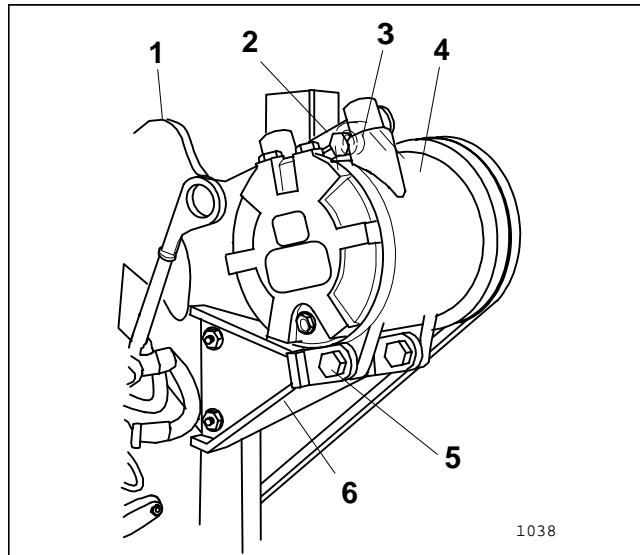

FIG. 3
- 5.** Mount Compressor Mounting Bracket to rear of Governor Bracket using (2) 3/8" x 1" capscrews and flange locknuts. Note: Use pre-drilled holes in Governor Bracket. See FIG. 3.
- 6.** Install Compressor Adjusting Strap to rear of Governor Bracket using (1) 3/8" x 1" capscrew and 3/8" flange locknut. See FIG. 3
- 7.** Loosely mount Compressor to Compressor Mounting Bracket using (2) M10 x 35 capscrews. See FIG. 3.
- 8.** Place Compressor Spacer between Compressor Adjusting Strap and Compressor Top Mounting Flange. Loosely mount with M10 x 35 capscrew. Note: Mounting holes are threaded. See FIG. 3.